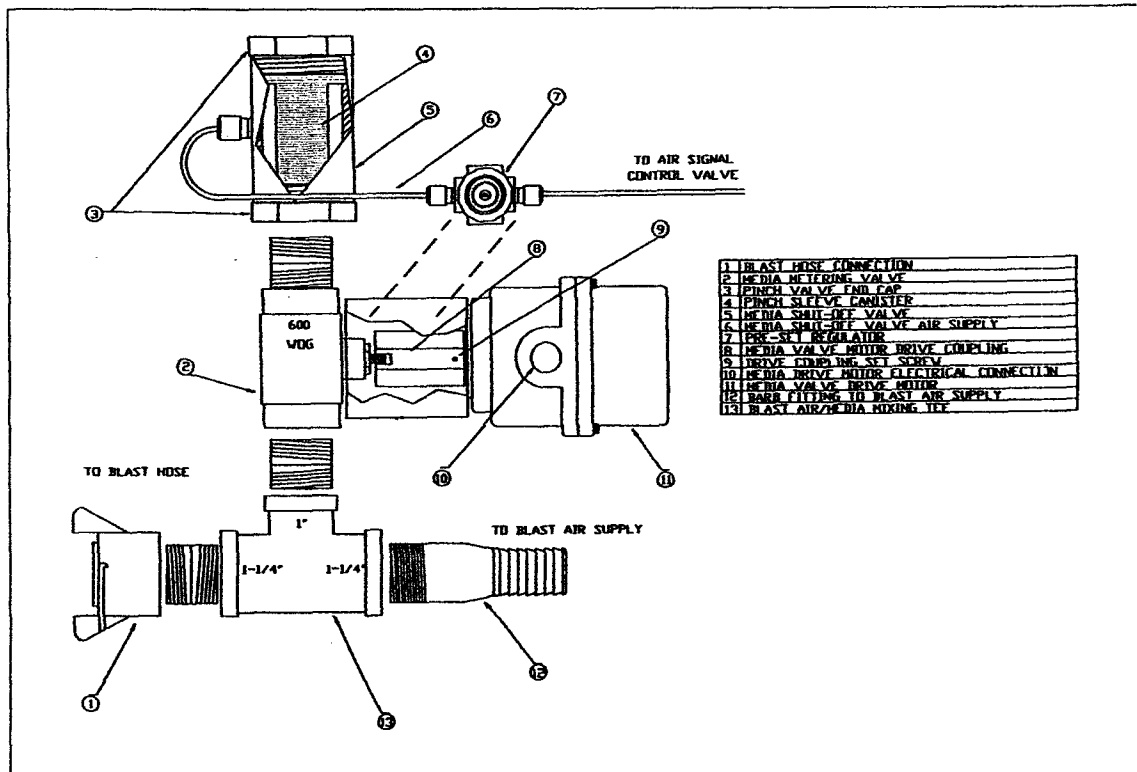

Figure 2-18
3. Media shut-off valve (Figure 2-18) not depressurized.